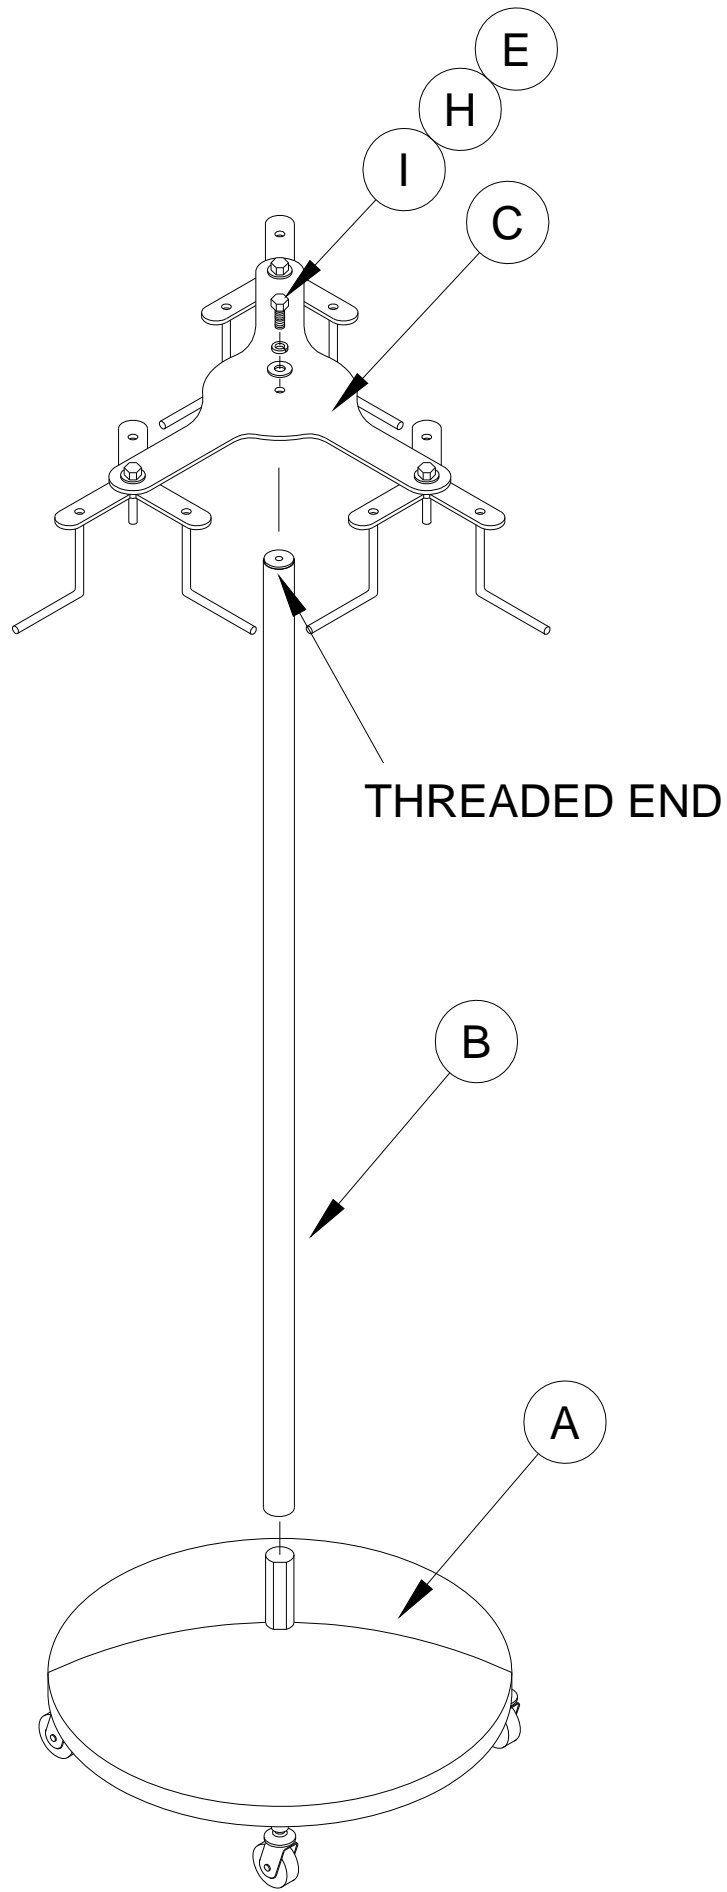

Figure 2
2. Attach the carousel assembly to the threaded end of the Upright Pole (B) using a 1/2" x 1" Hex Bolt (E), 1/2" Lock Washer (H), and a 1/2" Flat Washer (I). See Figure 2.
3. Mount the assembled Upright Pole (B) onto the Dome Base (A). See Figure 2.